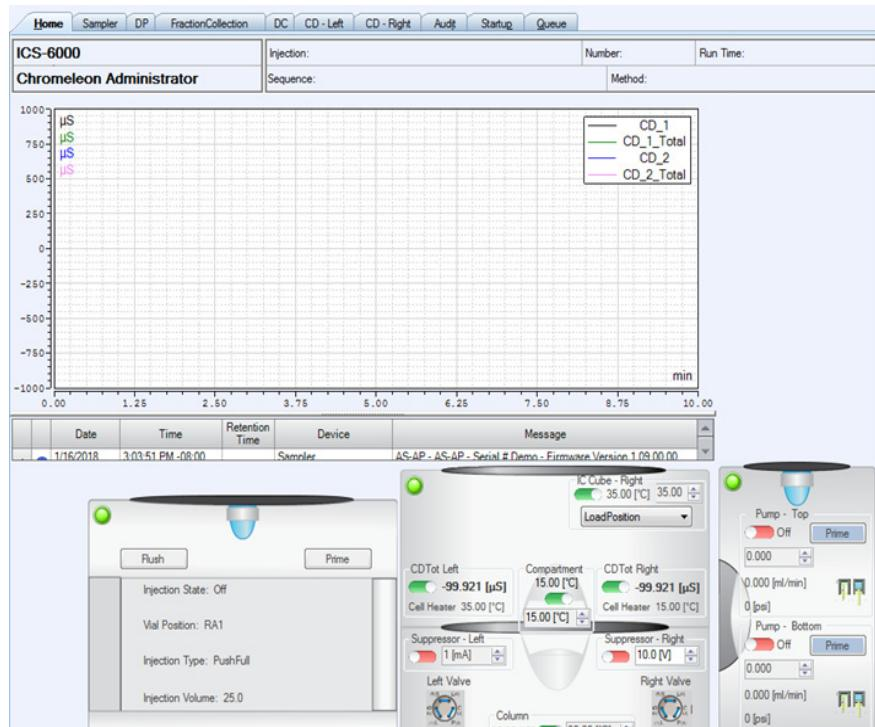

Figure 4-2. Example Chromeleon ePanel Set
2. To display the Chromeleon ePanel Set, click the **Instruments** Category Bar in the Console. Click your instrument on the Navigation Pane. Chromeleon connects to the instrument and displays the ePanel Set (see Figure 4-2).